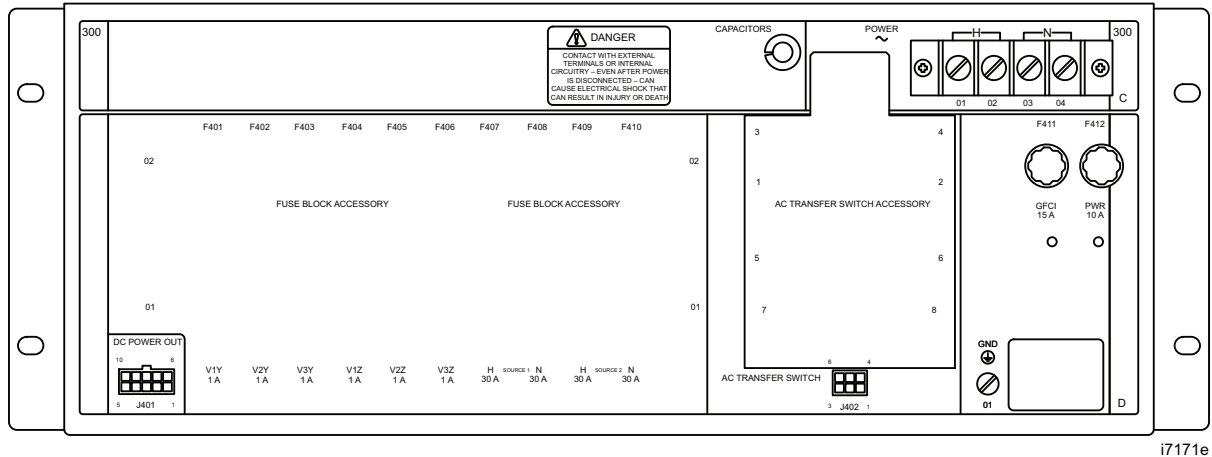

Figure 26 Rear View of the SEL-651R-2 Relay Module
- Two Form C (normally closed/normally open) standard interrupting output contacts: OUT201 and OUT202 (row 200; *Figure 26*). OUT201 is factory-programmed as an alarm output.
Order the following additional I/O (row 100; *Figure 26*):